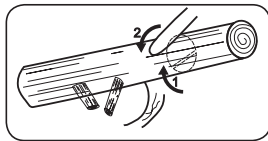

Fig. 12B
2. Log supported on 1 end: First, cut from bottom (under buck) 1/3 diameter of log to avoid splintering. Second, cut from above (over buck) to meet first cut and avoid pinching (Fig. 12B).